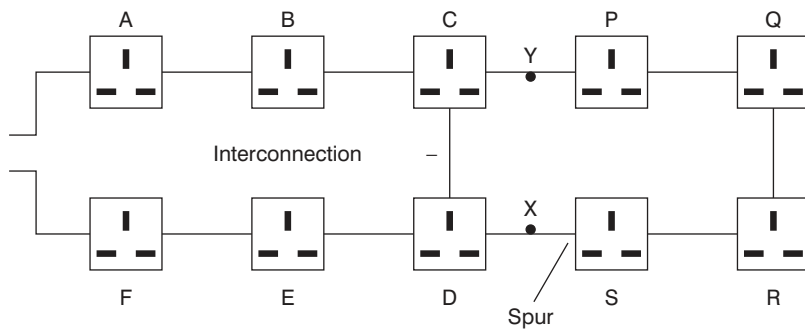

Fig. 19.15
What then are interconnections in a ring circuit, and why is it important to locate them? Figure 19.15 shows a ring final circuit with an interconnection.
The most likely cause of the situation shown in Figure 19.15 is where a DIY enthusiast has added sockets P, Q, R and S to an existing ring A, B, C, D, E and F.
- 4 Measure between phase and neutral at each socket on the ring. The readings obtained should be, for a perfect ring, substantially the same. If an interconnection existed such as shown in Figure 19.15, then sockets A to F would all have similar readings, and those beyond the interconnection would have gradually increasing values to approximately the mid point of the ring, then decreasing values back towards the interconnection. If a break had occurred at point Y then the readings from socket S would increase to a maximum at socket P. One or two high readings are likely to indicate either loose connections or spurs. A null reading, i.e. an open circuit indication, is probably a reverse polarity, either phase-CPC or neutral-CPC reversal. These faults would clearly be rectified and the test at the suspect socket(s) repeated.